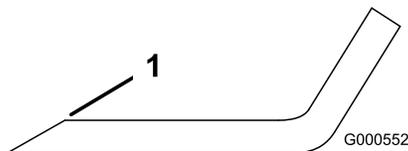

Figure 98
1. Use a file to sharpen the cutting edge at both ends of the blade (Figure 98).
**Note:** If the blade is not balanced, file some metal off the end of the sail area only (Figure 98).